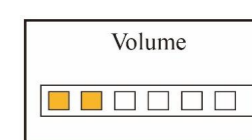

Figure 4.10B Volume setup
- Volume: To set the sound volume (including reminder, pulse beep sound and key click sound), 6 levels sound volume for optional, the factory default is level 3, as shown in figure 4.10B.